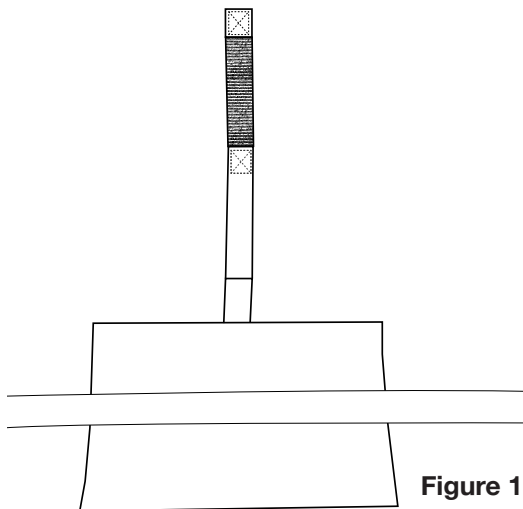

Figure 1
- 5. Place the PVC Heating Blanket under the PVC conduit and position to where the bend is to be made. (FIGURE 1)*